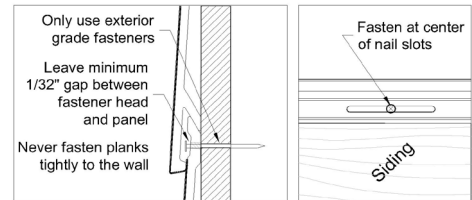

Figure 5
- Everlast is a floating siding system that accommodates lateral expansion and contraction within pocketed trim. Therefore, never hard nail siding planks tightly to the wall (Figure 5).
- Always fasten siding planks through the center of the pre-punched nailing slots (Figure 5).
- Always leave a minimum 1/32" gap between the nail head and the nailing hem (Figure 5).
- Fastening into OSB or plywood sheathing is acceptable. Be sure the fasteners are long enough to penetrate a minimum 3/4" beyond the sheathing. Note: Fasten into studs when possible (Figure 5).